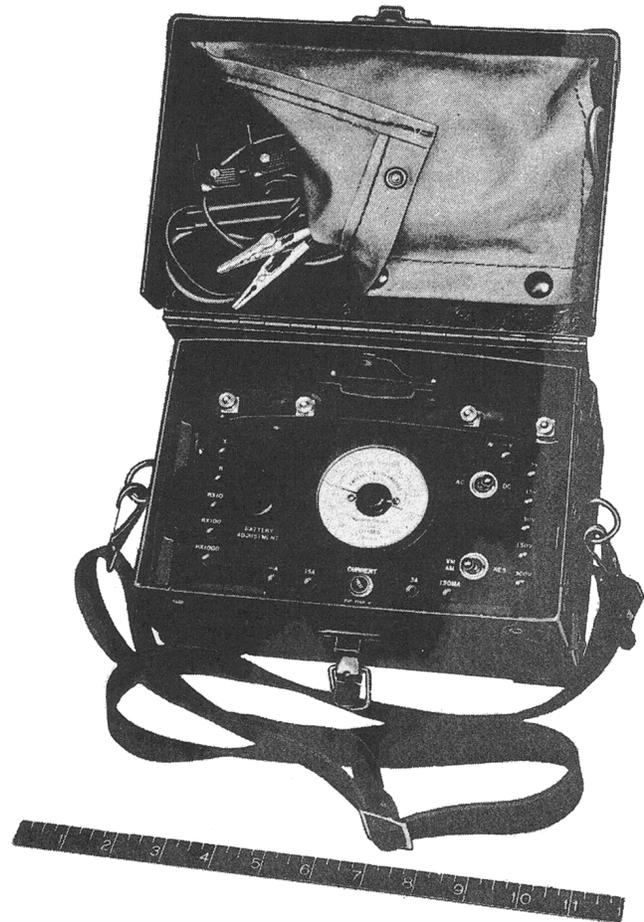

Fig. 2 - M9B Meter in Carrying Case - Cover Open
1.04 The M9B Meter is furnished with a pair of KS-9290 test pick leads, a pair of KS-9291 test clip leads and a KS-9308 carrying strap. A 4-1/2-volt battery (par. 2.08) is required for use in the meter. The meter is equipped with "D" loops for attaching a neck carrying strap (KS-9308). A fibre carrying case (KS-9307) is available for carrying the meter and test leads. (See Figs. 2 and 3.) The M9B Meter is similar to the Western Electric Company D-166852 Volt-ohm-milliammeter which was recently developed for maintenance use with carrier, central office, and telegraph equipments.
2. CIRCUIT AND EQUIPMENT FEATURES(A) M9B Meter
2.11 The KS-9308 carrying strap is available for use with the M9B Meter. This strap (Figs. 2 and 3) is equipped on each end with a harness snap and is adjustable as to length by means of a sliding buckle. The strap is intended to attach to the metal "D" loop on the sides of the instrument, and to be used as a neck strap to support the meter so as to leave both hands of the tester free for making test connections; or the strap may be attached to the KS-9307 carrying case and used in the same way.
2.12 The KS-9307 carrying case may be obtained for use with this meter. This fibre case (Figs. 2 and 3) is arranged with a hinged top, inside of which a snap-fastened fabric flap provides a place for storing the test leads (Fig. 2). There is a "D" ring on each side of the case to which the KS-9308 carrying strap may be attached. The case is so designed that